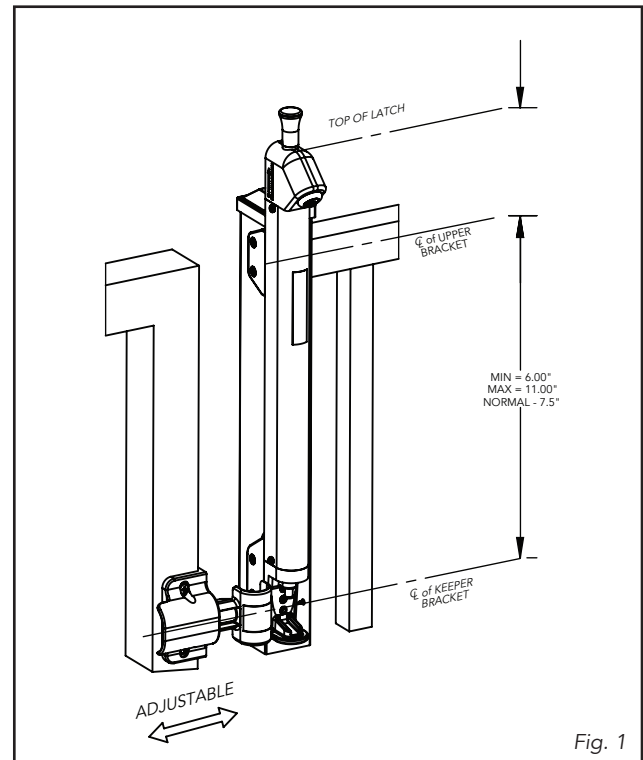

Fig. 1
- Align the rear groove in the main latch body with the tab in the upper bracket and slide the latch into position. Using a measuring device, locate the top of the latch at the proper height (Fig. 1).